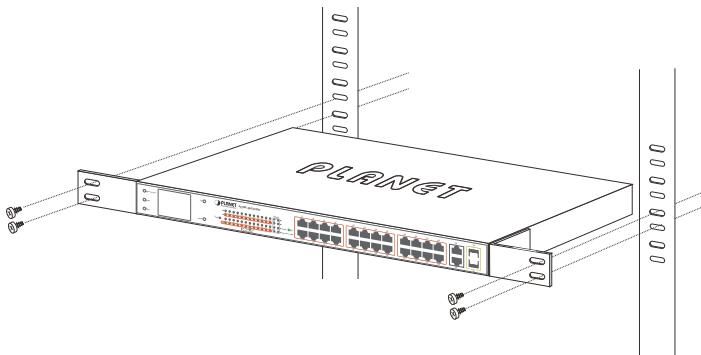

Figure 3-3: Mounting the LCD Switch in a Rack
Step 5: After the brackets are attached to the LCD switch, use suitable screws to securely attach the brackets to the rack, as shown in Figure 3-3.